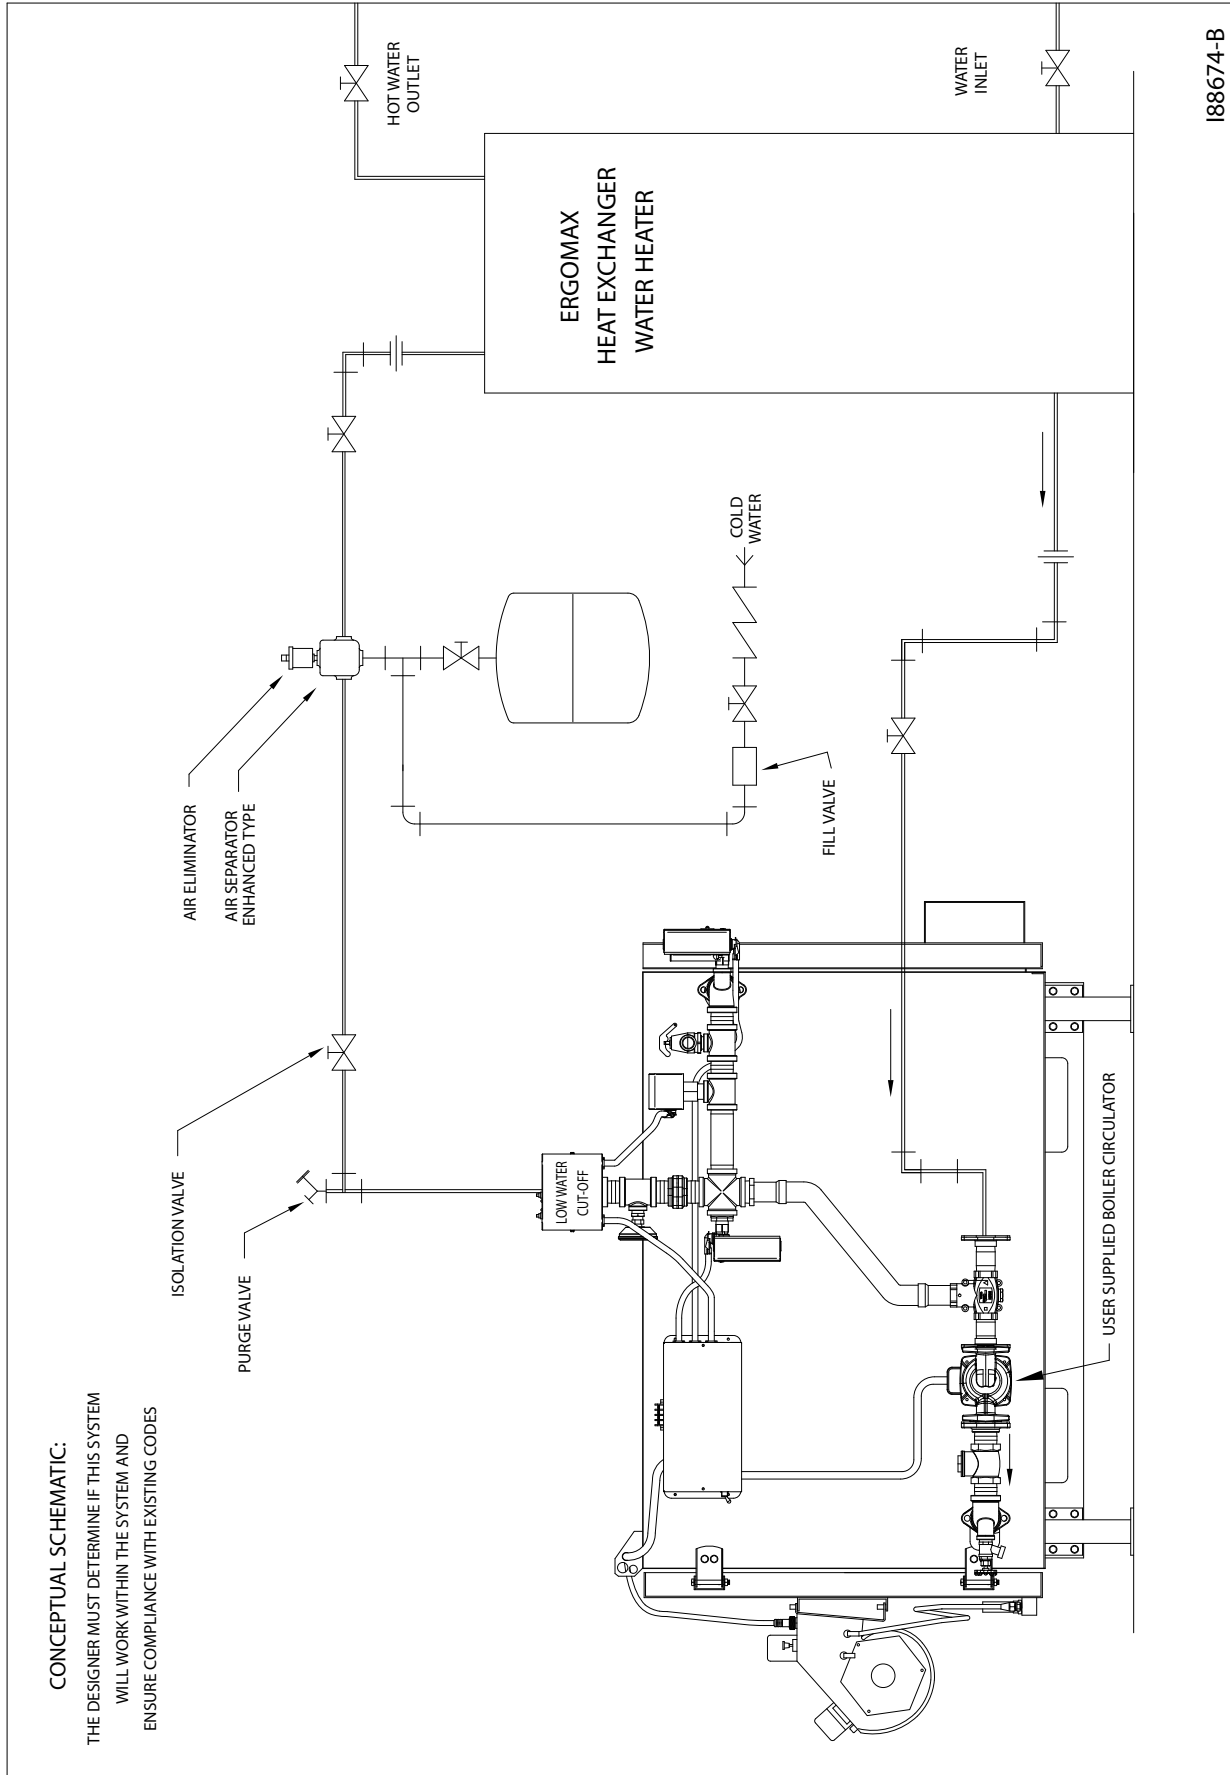

Figure 10C - CTB with Ergomax Indirect Water Heater
(3) *If hot water is required in the system installation for washing or other related activities,* Clean Burn offers **Ergomax Heat Exchangers/Storage Tanks in various sizes.** Contact your local Clean Burn representative for additional details on these CTB system components. Refer to Figure 10C for a sample system configuration using an Ergomax Heat Exchanger. This configuration is ideal for installations requiring pressure washing, car/truck washing, etc. The Ergomax unit works well with a CTB because it stores boiler water in the tank and acts as a buffer (tempering) tank while enabling reduction of short cycling.